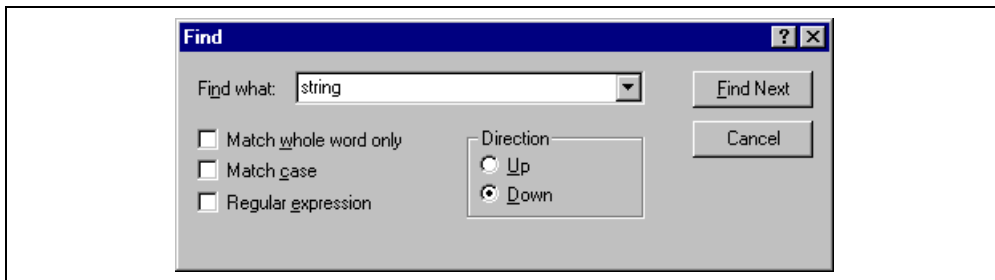

Figure 4.2: Find Dialog
3. Select **[Edit->Find...]**, press **CTRL+F**, select **[Find...]** from the editor window's local menu or click the find toolbar button (🔍). The "Find" dialog box will be displayed * MERGEFORMAT (figure 4.2).